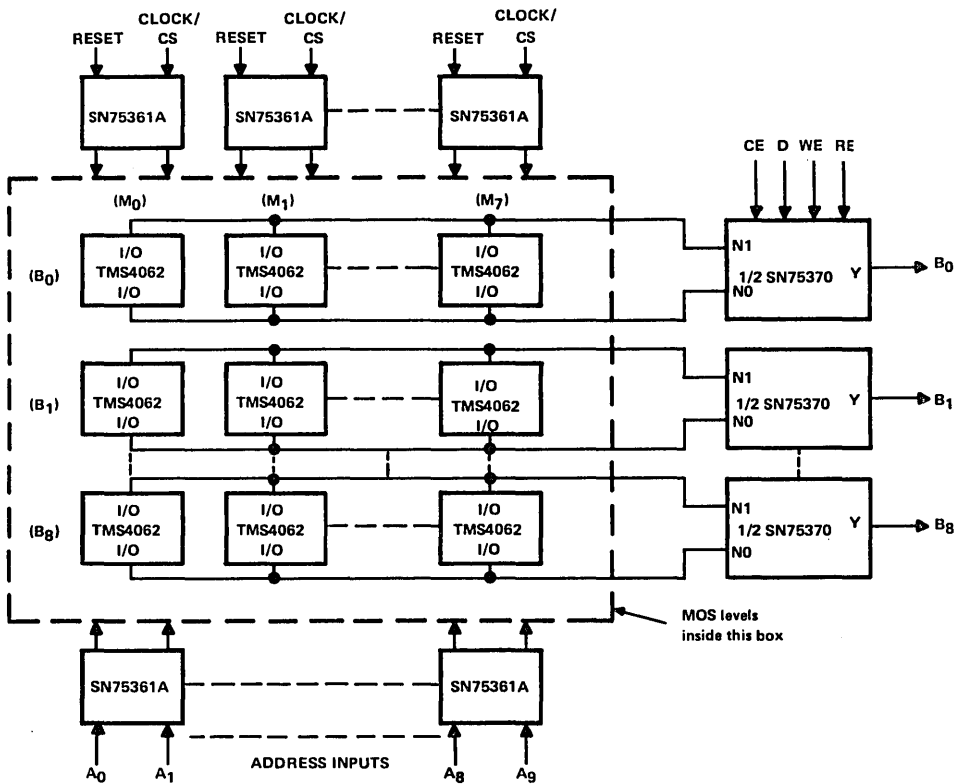

FIGURE 30—BLOCK DIAGRAM OF TOTALLY TTL-COMPATIBLE 8K X 9-BIT MOS-MEMORY SYSTEM USING SN75370, TMS4062, AND SN75361A
Figure 30 illustrates a typical MOS memory system using SN75370, TMS4062, and SN75361A. All inputs and outputs from this system are TTL-compatible. The SN75361A is a high-speed monolithic dual TTL-to-MOS driver. The address SN75361As select a cell in each of the 72 TMS4062s. In Figure 30 the I/O terminals of the eight TMS4062 RAMs in each row have been connected to the node terminals of the associated SN75370 channel. Time multiplexing of the column of RAMs (M) by the SN75361A Clock/CS and Reset drivers is then used to write into or read from the cells that have been selected by the address SN75361As.